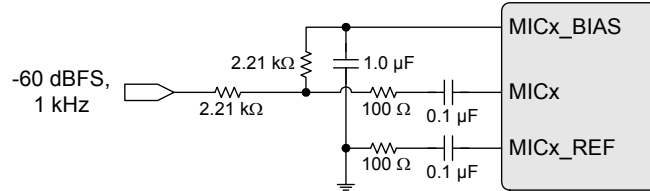

Figure 2. MICx Dynamic Range Test Configuration
- Includes noise from MICx_BIAS output through series 2.21 kΩ series resistor to MICx. Refer to Figure 2 below. Input signal is -60 dB down from corresponding full-scale voltage.